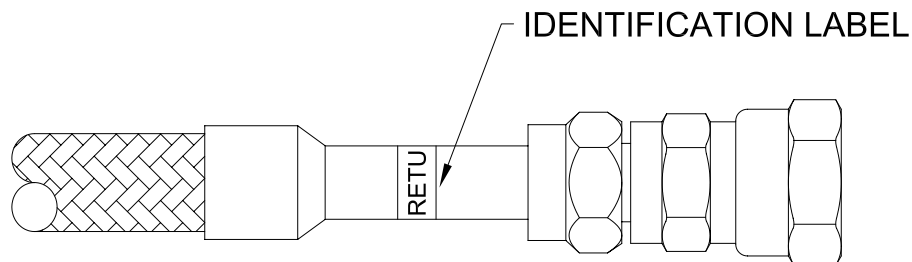

Figure 6: Attach Identification Label
1. SUPPLY (red) and RETURN (green) labels are furnished with the gas lines. Apply both RETURN labels to the same gas line by placing one at each end of the gas line in the location shown in Figure 6. Apply both SUPPLY labels to the other gas line using the same method. **DO NOT** apply different labels to the same gas line.